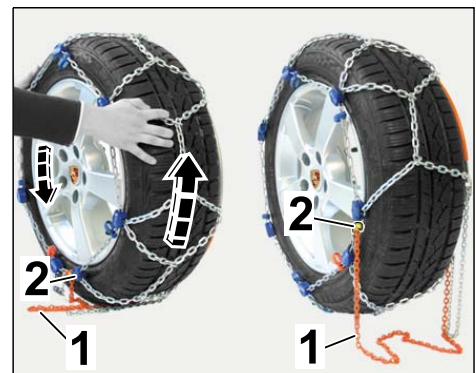

Figure 7
- 2.2.1 Drive forward or back to turn the wheel by approx. 1/4 (⇒ *Figure 7 -Arrows-*).
The tensioning chain (⇒ *Figure 7 -1-*) must **NOT** be under the wheel.